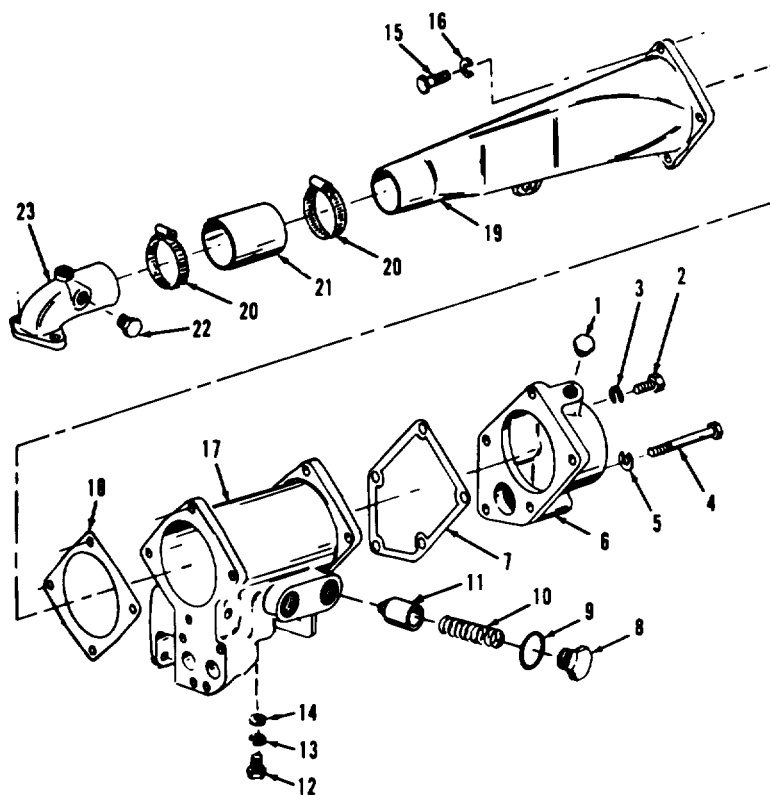

Figure 8-20. Oil cooler group, exploded view
Refer to figure 8-20, and disassem-
d. Using a suitable spring compressor, apply a load of 8.92 lbs. and compress relief valve spring (10, figure 8-20) to a length of 2.5 inches. Replace relief valve spring (10) if free length after test is not 3.61 inches.
Refer to figure 8-20 and reassemble oil cooler group in the reverse order of index numbers assigned.
Legend to figure 8-20: